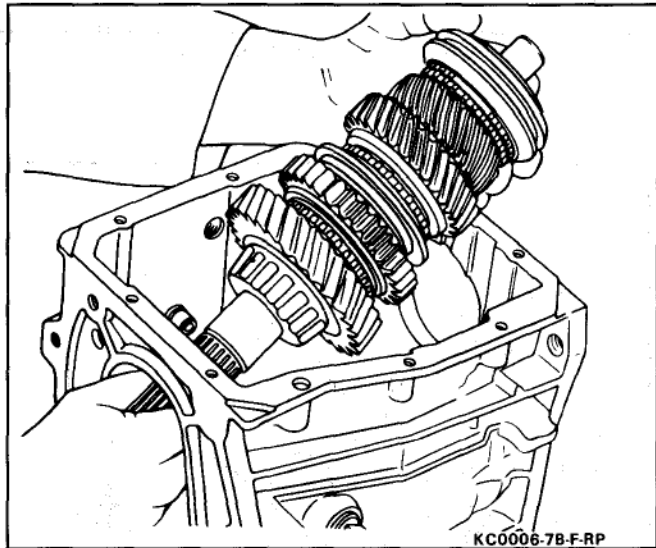

Figure 15 Mainshaft
- Tilt mainshaft upward and remove assembly from transmission case (Figure 15).